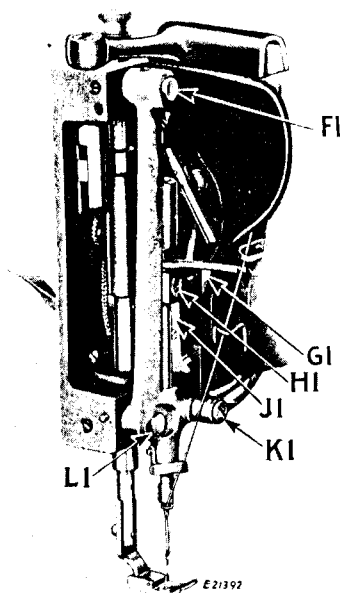

Fig. 19. Face Plate Removed
In case the needle bar is not correctly set, loosen the needle bar connecting stud set screw (HI, Fig. 19) and move the needle bar to the correct position, then tighten the set screw.
First turn the needle vibrator spindle head (A, Fig. 2) all the way to the right so that the needle will not vibrate when the machine is running. A straight needle should now come in the centre of the needle hole in the throat plate. If it does not, loosen the set screw which holds the eccentric stud (KI, Fig. 19) and turn the stud (KI) until it does, then tighten the set screw.
Remove the arm shaft connection belt and the machine pulley. Loosen the set screws and remove the position screws in the upper belt pulley and the feed lifting eccentric (N, Fig. 5). Remove the top and bottom studs (F1 and L1, Fig. 19) and the eccentric stud (K1) in the needle bar frame after loosening the set screws which hold them, and remove the needle bar frame. Remove the two gibs (G1 and J1, Fig. 19) which hold the needle bar connecting link in the guide block. Loosen the set screw (at H, Fig. 3) which holds the take-up lever stud. Also remove the position screw and loosen the set screw in the perimeter of the needle bar crank, through the hole in the casting (B, Fig. 2), and remove the take-up and crank. Loosen the set screw (E, Fig. 3) which holds the front bushing and withdraw the arm shaft, with the front bushing, from the needle bar end. If the bushing should stick, insert a brass rod through the arm cap hole and drive the bushing out.